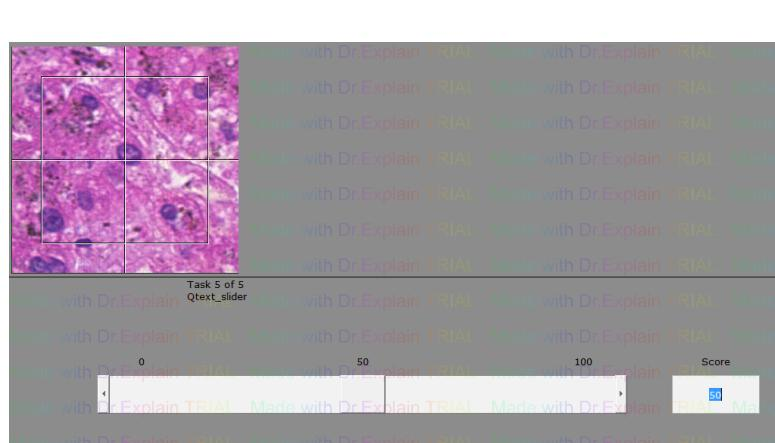

Figure 4
1. On a scale 0-100, rate the tissue using the slider or typing in the number (*Figure 4*)